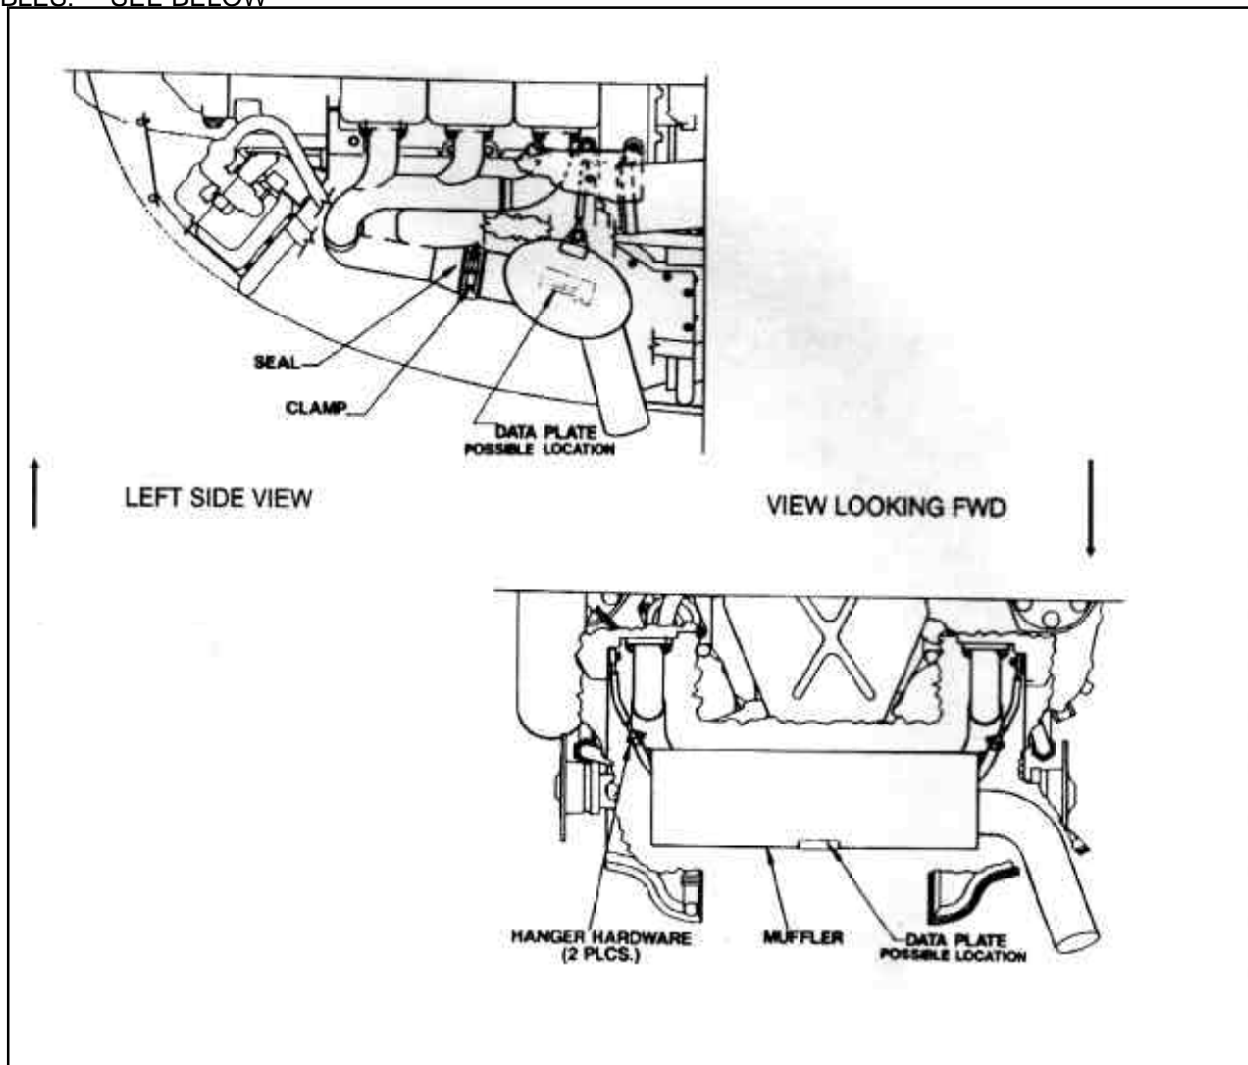

FIGURE M20-243-1
2. Visually inspect muffler assembly for presence of welded-on data plate (location can vary, ie. bottom of muffler shell, approximately C/L of engine case or on end cap opposite exhaust pipe end) (See Fig. M20-243-1), or for signs of excessive grinding near data plate area as well as other areas of muffler shell. If data plate is not on end cap, Step 3. will be necessary.